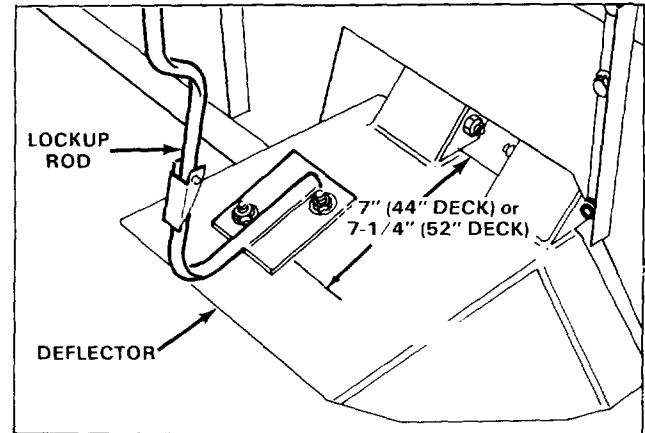

Figure 6
3. (Step #3 pertains only to cutting deck carrier frames with serial numbers prior to 70001.) Using each mounting beam as a template, locate and drill (4) 1/2" dia. holes in carrier frame.
4. On 44" bagging kits, push threaded insert (included in kit) into rear holes drilled in carrier frame. Secure rear beam to carrier frame and insert with (2) 3/8-16 x 2-1/2" lg. capscrews and (2) flatwashers. Washers to be positioned on top of beam. Tighten capscREW until insert expands in carrier frame hole. Secure front beam to carrier frame with (2) 3/8-16 x 2-1/2" lg. capscrews, (4) flatwashers, and (2) locknuts. Washers to be positioned on top of beam and under carrier frame.
5. On 52" bagging kits, secure front beam to carrier frame with (2) 3/8-16 x 2-1/2" lg. capscrews, (4) flatwashers and (4) flangenuts. Secure rear beam to carrier frame with (2) 3/8-16 x 4-1/2" lg. capscrews, (4) flatwashers and (4) locknuts. Washers to be positioned on top of beam and under carrier frame.
6. Measure 7" (on 44" deck) or 7-1/4" (on 52" deck) from edge of deflector and draw a parallel line (Fig. 6).
7. Using lockup rod as a template (Fig. 6), mark and drill (2) 11/32" dia. holes in deflector. Secure lockup